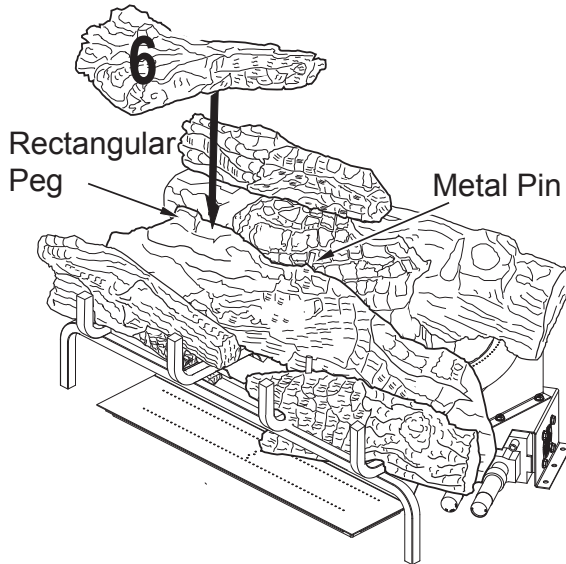

Figure 27 - Installing Log # 6
- Place the left top forked log (#6) on the top of the middle log (#2). Match the rectangular projection on top of the middle log (#2) with the rectangular hole on the bottom of the left top forked log (#6). Match the metal pin on the top of the middle log (#2) with the round hold in the bottom of the left top forked log (#6). See **Figure 27, Page 17**.